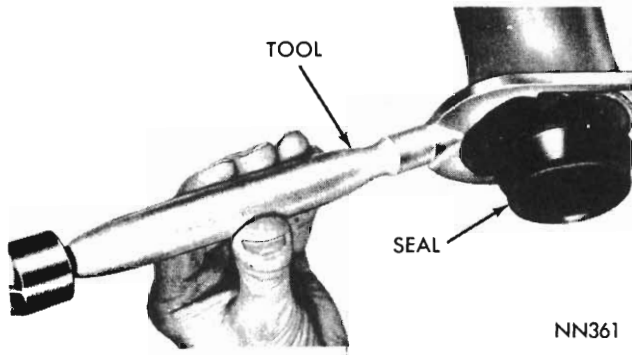

Fig. 2 - Removing Extension Housing Yoke Seal
(2) Remove the extension housing yoke seal (Fig. 2) with Tool E21C50D.